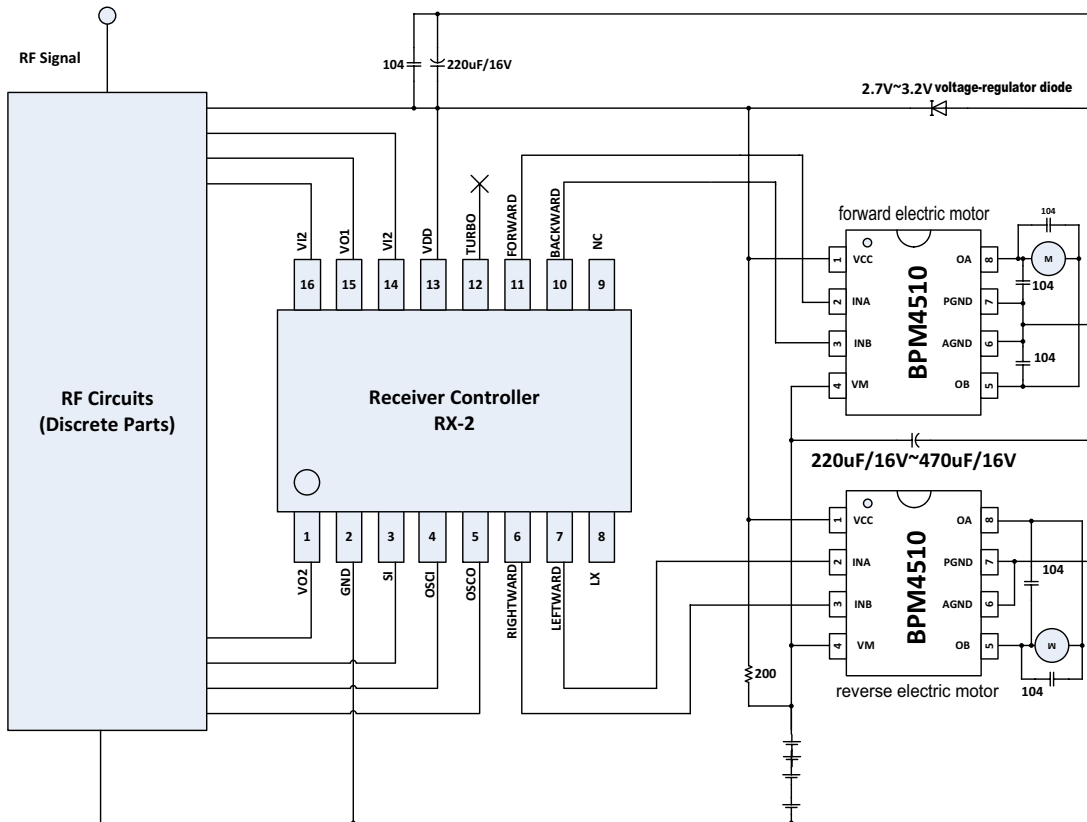

Figure 1 Typical application with four series 1.5 V batteries for power
- 5、the current of front wheel steering motor is small, and the peak voltage is smaller then rear wheels, still can cause damage to the circuit due to the high power supply voltage, suggest to pick up a capacitor 104 by cross nearby output side OA and OB ,or according to the connection of rear wheels. As shown in figure 1.
- 6、4 batteries can chose connect front wheel steering motor capacitor or not according to actual situation,but for rear wheel steering suggest according to figure 1.